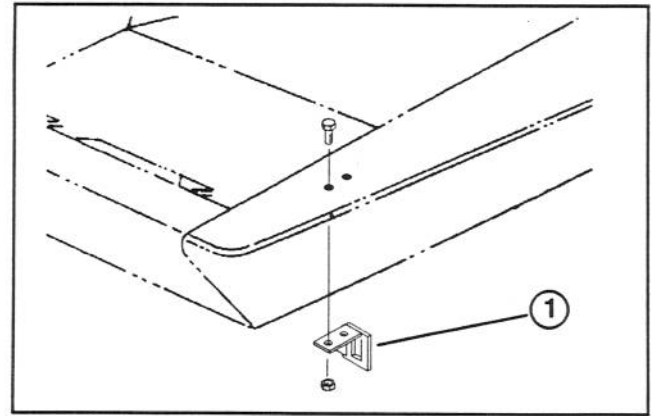

Figure 7
7. Mount left deck bracket to left footrest with (2) capscrews and locknuts. Position bracket as shown in figure 7.